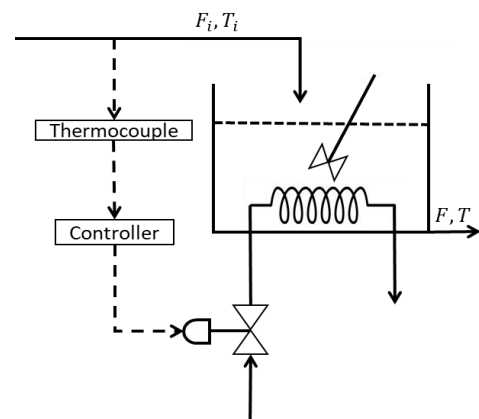

Figure Q6: Controlling temperature in a tank
7. What type of control system has been implemented in the heating process in Figure Q6?